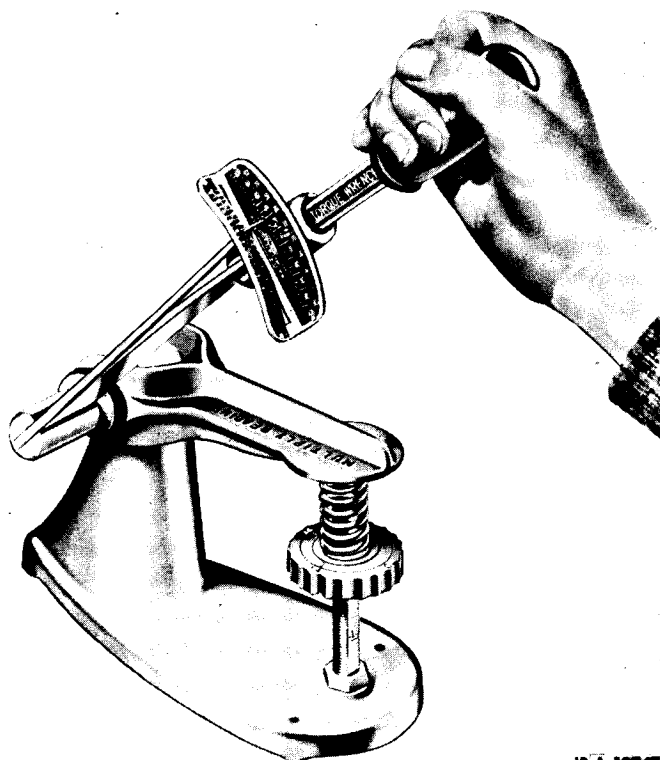

Fig. 22 - Testing Valve Springs.
4. Clean and examine all valve springs for rust, pitting, broken or set coils. Test each spring against the spring specifications (refer to "SPECIFICATIONS," Section 1) using a spring load tester PLT-100 (Fig. 22).